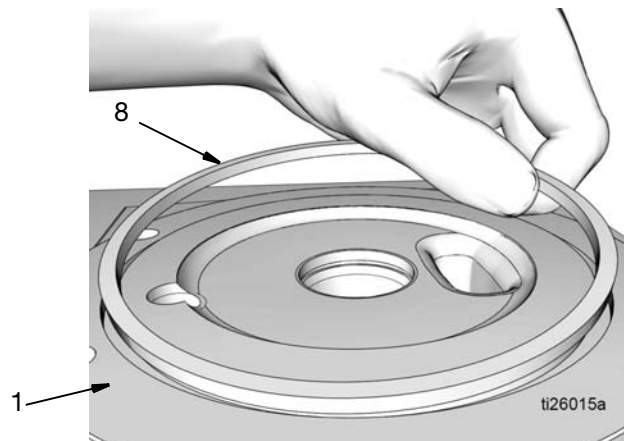

FIG. 28
21. Remove square o-ring (8) from the pump base (1) (FIG. 28). Dispose of o-ring according to all regulations for proper disposal